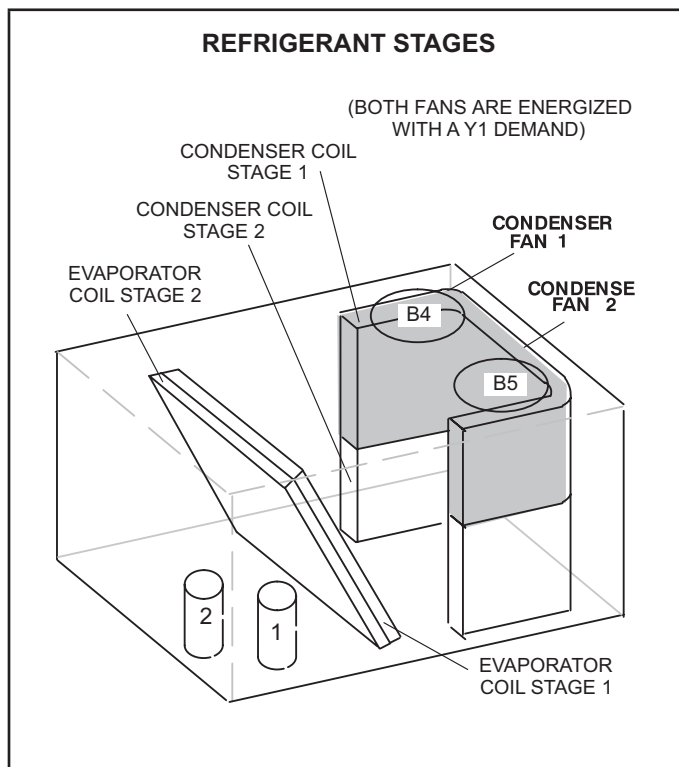

FIGURE 29
- 2 - Units have two refrigerant circuits. See FIGURE 29.